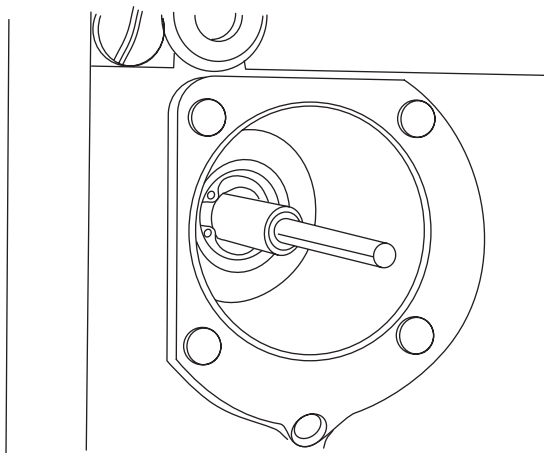

Figure 4-9 Plunger Disassembly
6. Remove the plunger using a pair of snap-ring pliers (Figure 4-9).